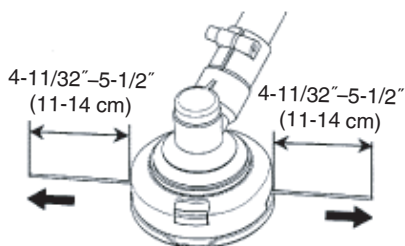

Fig. 34
- (7) The initial cutting line length should be approx.  $4\text{-}11/32\text{''}$ – $5\text{-}1/2\text{''}$  (11–14 cm) and should be equal on both sides. (Fig. 34)